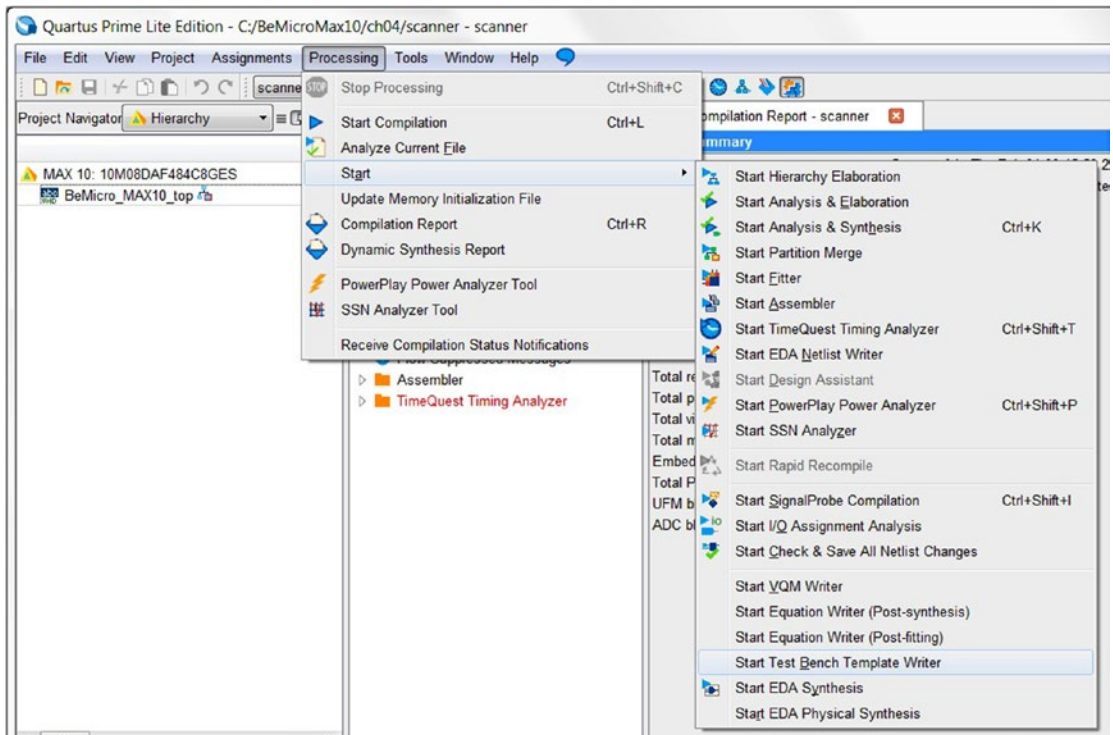
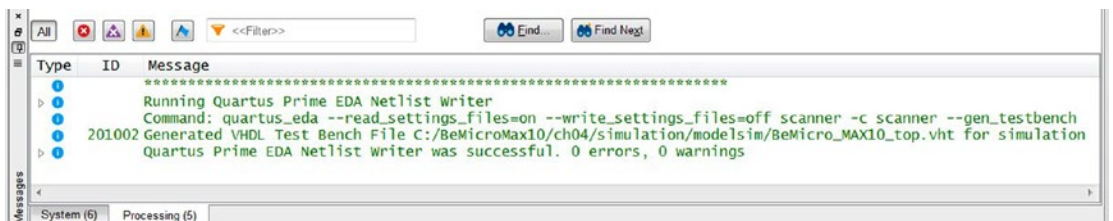

Figure 4-31. Quartus Prime Test Bench template writer
Figure 4-32. Generated test bench template and the location of the file show in Processing Message tab
2. Create the test bench template: Click **Processing** ► **Start** ► **Start Test Bench Template Writer** from the Quartus Prime menu (Figure 4-31). The test bench template writer is based on your top-level entity module and uses information from that file to generate a test bench for it. It will show the location of the test bench file in the processing message tab (Figure 4-32).